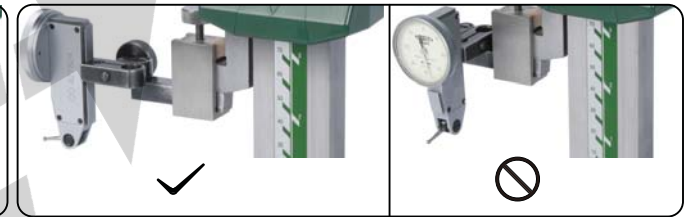

fig.3
- Please install dial test indicator correctly as fig.3.